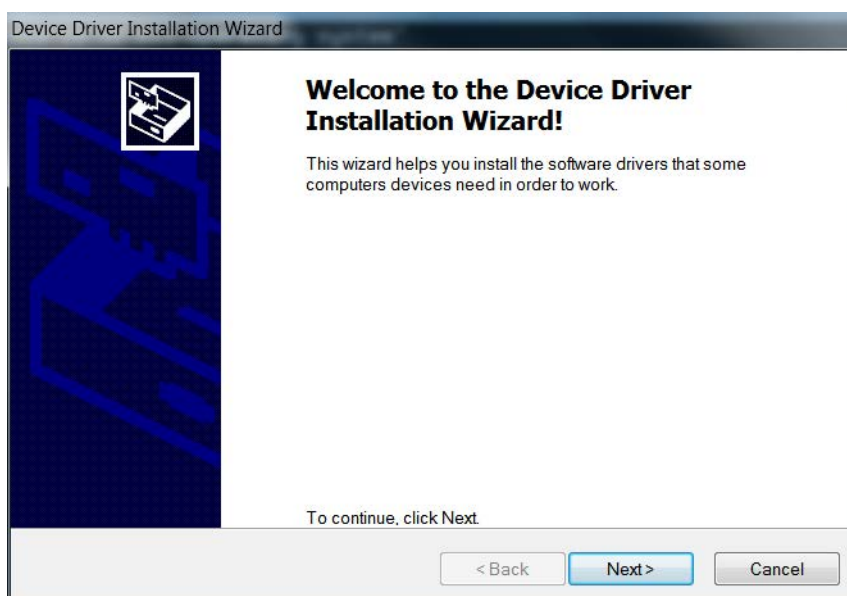

Figure 5. Device Driver Installation Wizard
1. Double-click the batch file named *1.Install_WinUSB_Driver.bat* in the USB_Demo folder to initiate the driver installation. The Device Driver Installation Wizard shown in Figure 5 should appear on the screen.